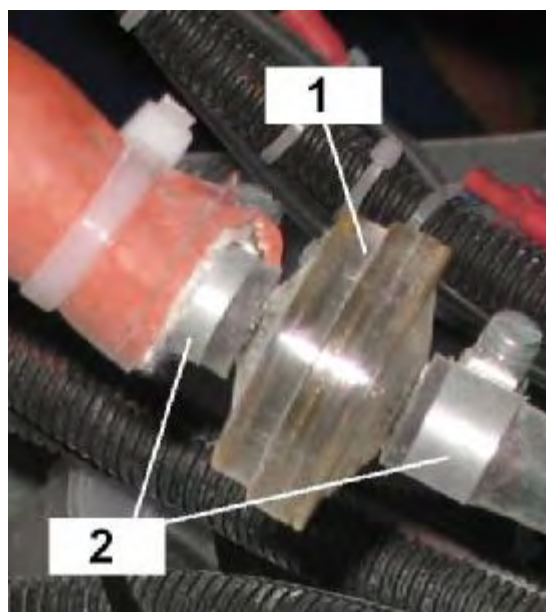

Fig. 6
1. Leaks at joint of the connector (Fuel Filter 5/16", Fig. 6, unit 1) and hose (Fuel tube DIN 73379, 7.5x13.0). Tighten the clamp Fig. 6, unit 2), if necessary;